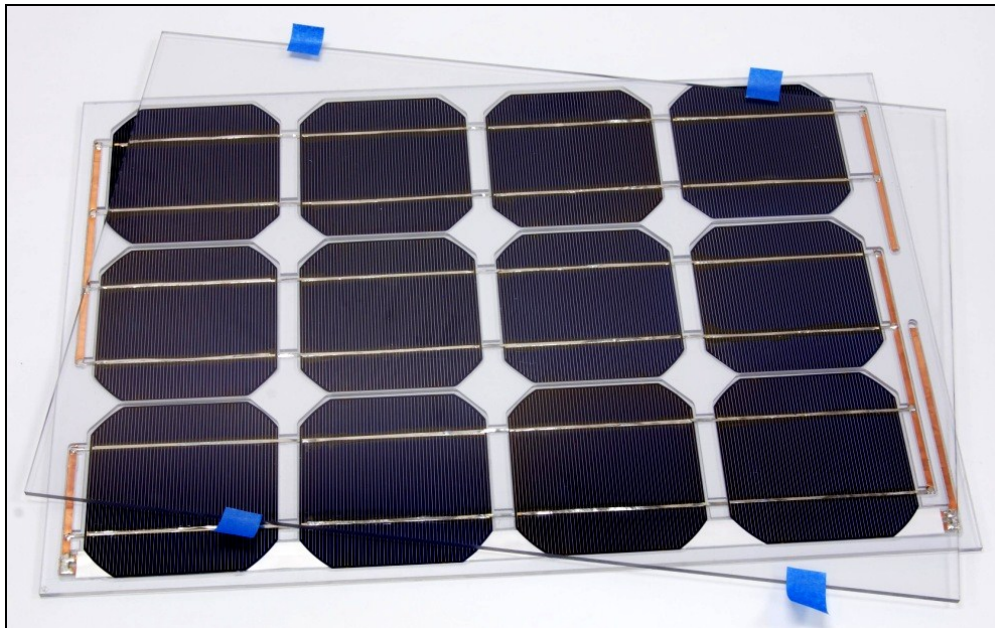

Figure 34
- ✓ Carefully place the Cover Panel over the Base Panel to check whether or not the cells and solder connections are recessed enough into their cavities to clear the cover, as shown in Figure 34.